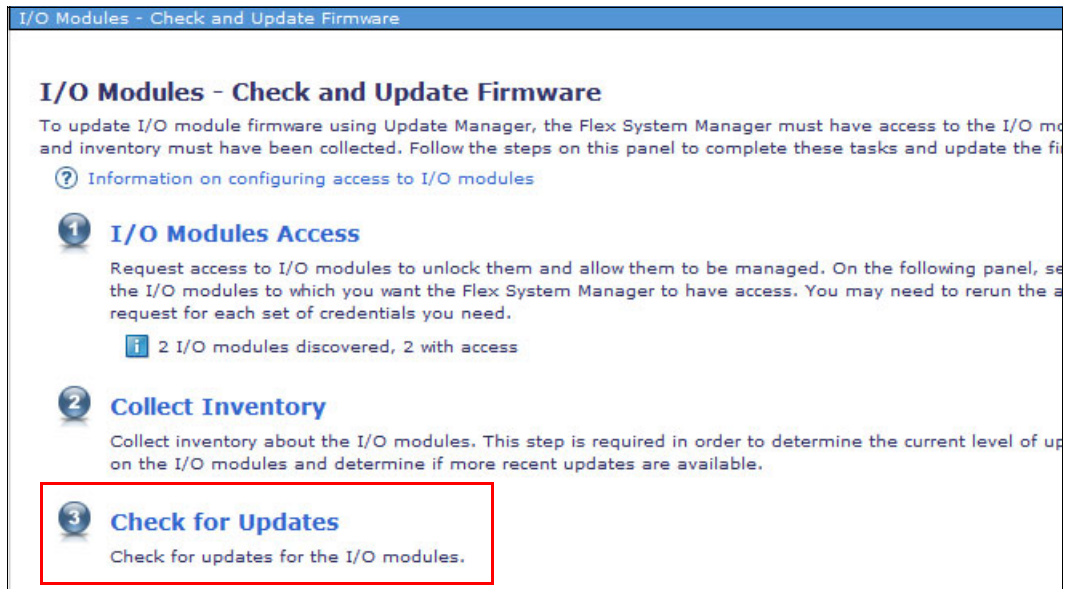

Figure 6-99 I/O Modules - Check and Update Firmware window: Check for Updates
2. In the I/O Modules - Check and Update Firmware window, click **Check for Updates**, as shown in Figure 6-99.